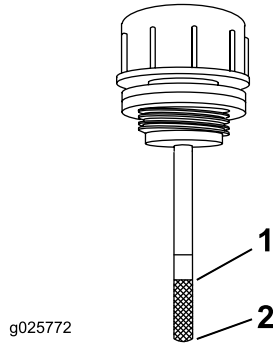

Figure 71
5. Clean the area around the dipstick of the hydraulic-system reservoir (Figure 71).
6. Remove the dipstick from the hydraulic reservoir (Figure 71).
8. Remove the dipstick and look at the end (Figure 71). If the fluid level is at the add mark, slowly pour only enough fluid into the hydraulic reservoir to raise the level to the full line.